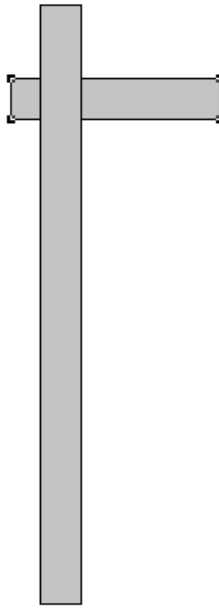

Figure 2
2. Draw the cross-link close to the top end of the slender rod as shown in Figure 2. Send this object to the background by selecting the cross-link and using the “Send to Back” from Object menu.